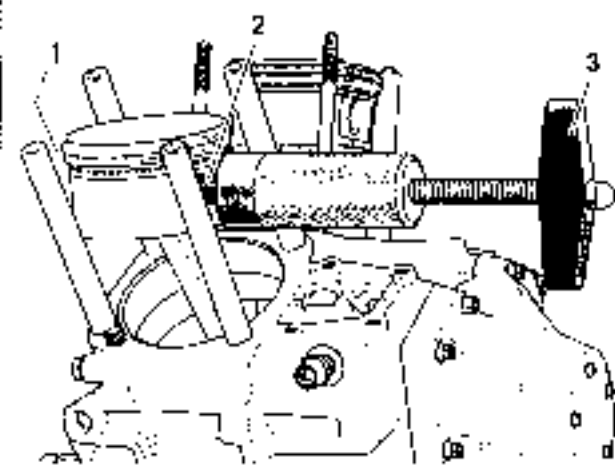

Figure 3-28. Piston Pin Remover (Part No. HD-42320-A)
3. See Figure 3-28. Remove the piston pin. If piston pin is difficult to remove, use PISTON PIN REMOVER (Part No. HD-42320-A).
- b. Slide rod end through piston pin. Install spacer and acorn nut (1) on end of rod.
- c. Position rubber-coated tips (2) of tool on flat each side of pin bore.
- d. Turn handle (3) in a clockwise direction until piston pin is pulled from bore.